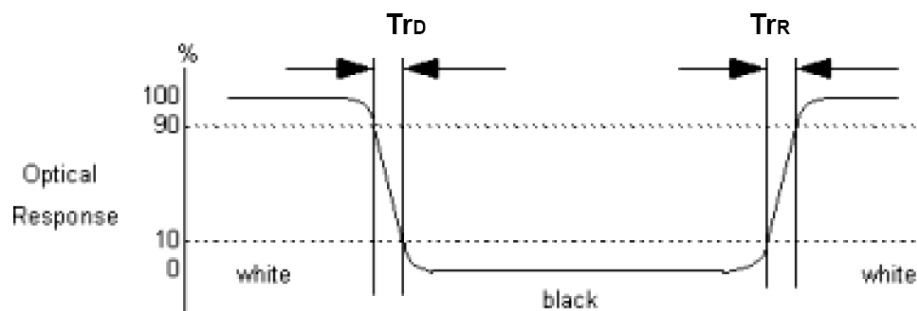

Fig.4-3 Response time
4. Response time is the time required for the display to transition from white(L_{255}) to black(L_0) (Decay Time, $Tr_D = Tf$) and from black(L_0) to white(L_{255}) (Rise Time, $Tr_R = Tr$). For additional information see Fig. 4-3.